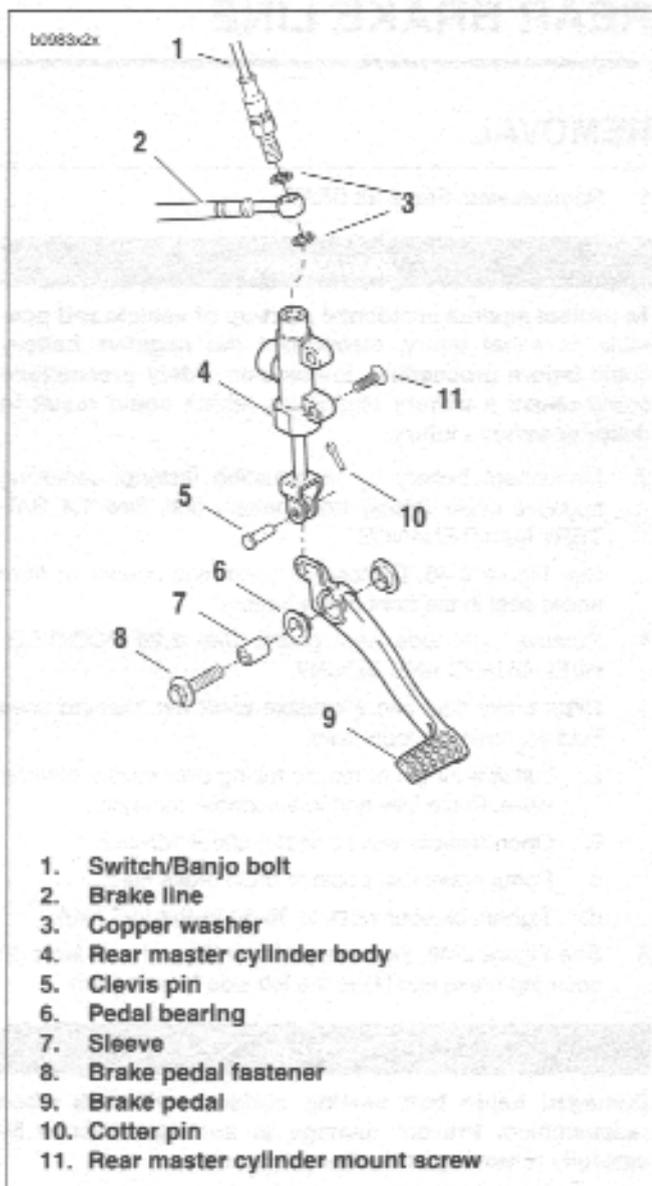

Figure 2-47. Rear Master Cylinder Assembly
4. See Figure 2-47. Remove brake reservoir hose at master cylinder.
8. See Figure 2-47. Remove banjo bolt (2) (metric) and two copper crush washers (3) to detach brake switch (1) from master cylinder (4). Discard copper crush washers.
1. See Figure 2-47. Install master cylinder (4) onto footpeg mount with fasteners (11). Tighten to 72-96 in-lbs (8-11 Nm).
2. Install rear brake switch (1) and banjo bolt (2) and new copper crush washers (3). Tighten to 16-20 ft-lbs (22-27 Nm).